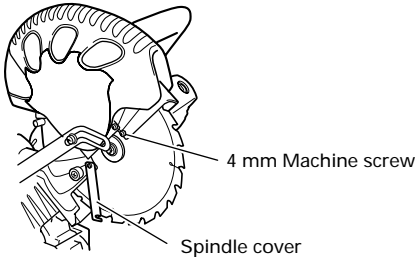
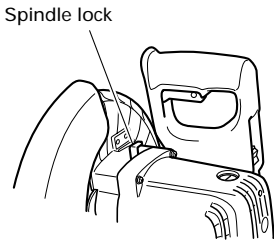
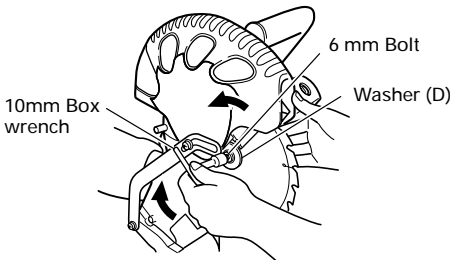
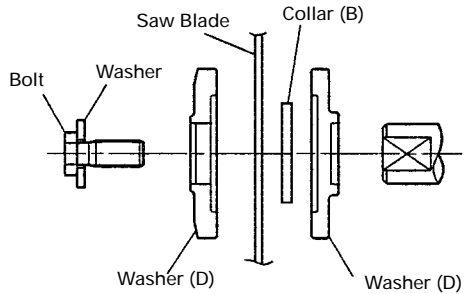

Fig. 22
Fig. 23
Fig. 24
Fig. 25
1. Mounting the saw blade (Fig. 22, Fig. 23, Fig. 24 and Fig. 25)
- (1) Rotate the lower guard (plastic) to the top position.
- (2) Use the driver to loosen the 4 mm screw fastening the spindle cover and then remove the spindle cover.
- (3) Press in spindle lock and loosen bolt with 10 mm box wrench (standard accessory). Since the bolt is left-hand threaded, loosen by turning it to the right as show in Fig. 24.
- (6) Thoroughly clean washer (D) and the bolt, and install them onto the saw blade spindle.
- (7) Press in the spindle lock and tighten the bolt by turning it to the left by standard accessories wrench (10 mm box wrench) as indicated in Fig. 24